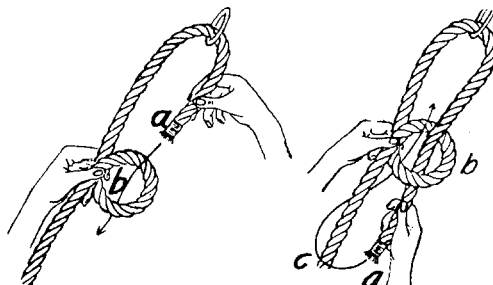

Figure 13. Beginner's bowline knot
(1) **BOWLINE - BEGINNER'S METHOD.** The knot is made by passing the end of the rope as a through a ring or around a post. A loop or half hitch is then made in the standing part of the rope about 2 feet from the end a (Figure 13, left). The end a is then brought through the loop b from the upper side (Figure 13, right). Next the end a is passed over the standing part of the rope at